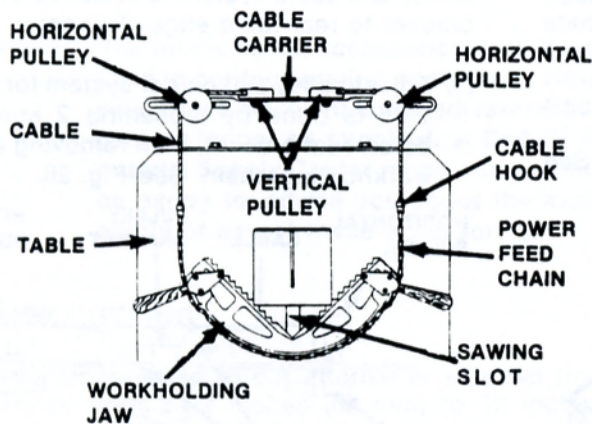

FIG. 28. CABLE & PULLEYS PULL WORKHOLDING JAW DURING AIR POWER FEED OPERATION.
- (3) Place work between workholding jaws and remove cable slack. Start machine and begin cutting by exerting slight downward foot pedal pressure. See Fig. 28.